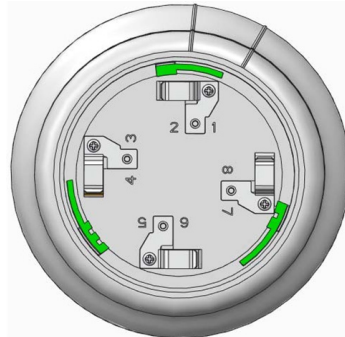
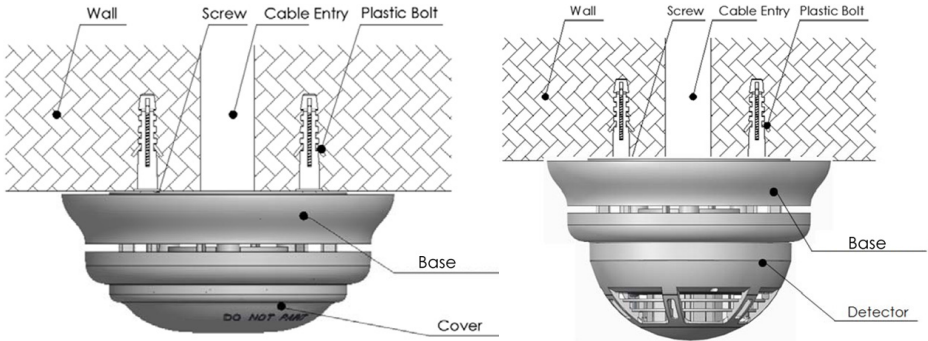

Fig.3 Top structure of the Base
Fig.4 Sounder flasher base with an upper cover or a detector
3. The top structure of the Sounder flasher base as shown in Figure 3. An upper cover or a detector can be mounted on the Sounder flasher base, as shown in Figure 4.